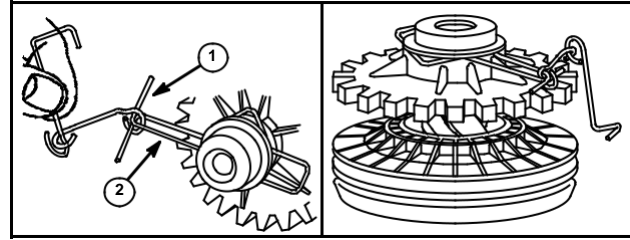

Fig. 56
14. Assemble end of link loop (1) toward gear on link assembly (2). Clean all dirty or oily parts and check link for proper friction. Link should move gear to both extremes of its travel. If not, replace link assembly, Fig. 56.